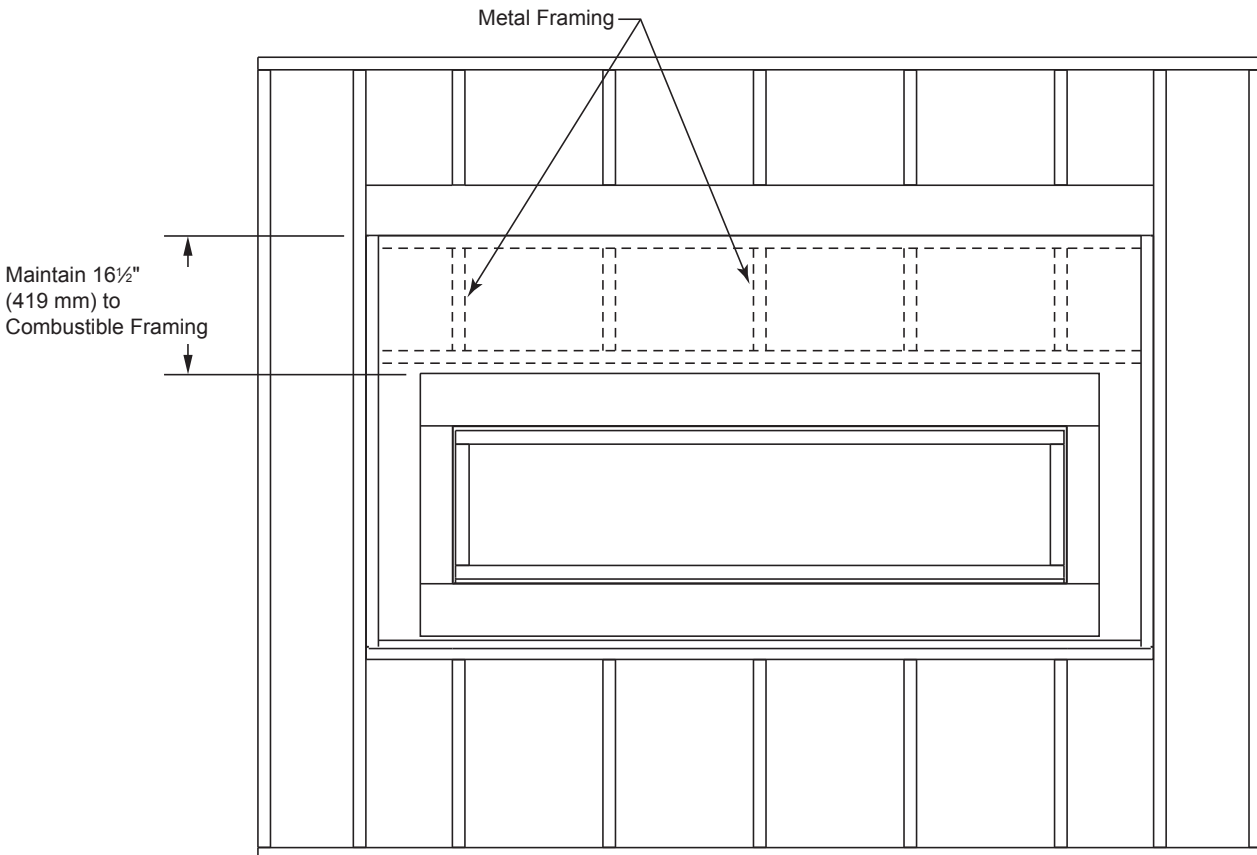

Figure 10
If a mantel will be installed and the attachment points fall upon the noncombustible surface above the glass frame opening, a suitable structure must be added in order to support the weight of the mantel. A framework of metal studs as shown in Figure 10 is suggested. The two (2) front stand-offs on top of the unit will need to be removed.